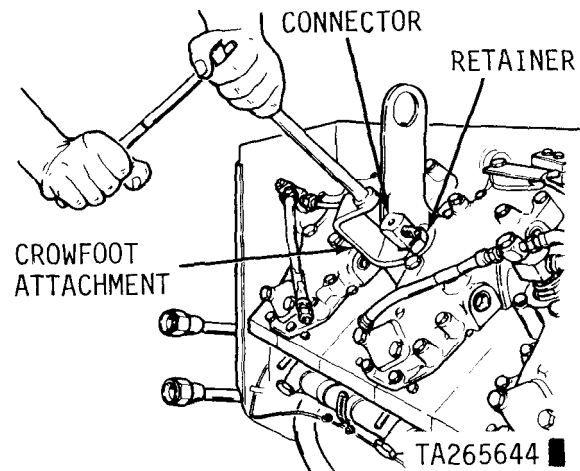

Figure 2-85. Loosening fuel injector nozzle and holder assembly using crowfoot attachment.
(6) Loosen and remove fuel injector nozzle and holder assembly as shown in figure 2-85. Remove and discard fiat washer (gasket) (fig. 2-86) and preformed packing.